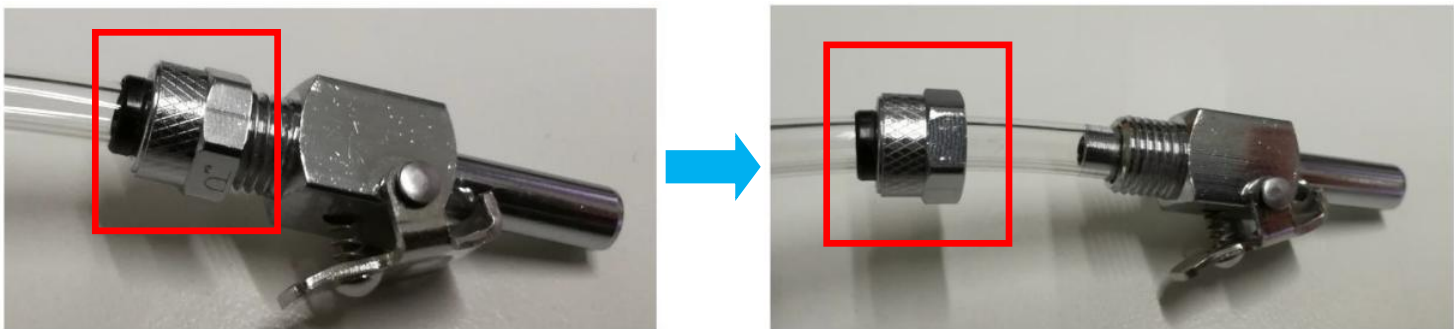

Figure 8
10. Gently loosen the nut and slide through existing tubing. May refer to below Figure 8.